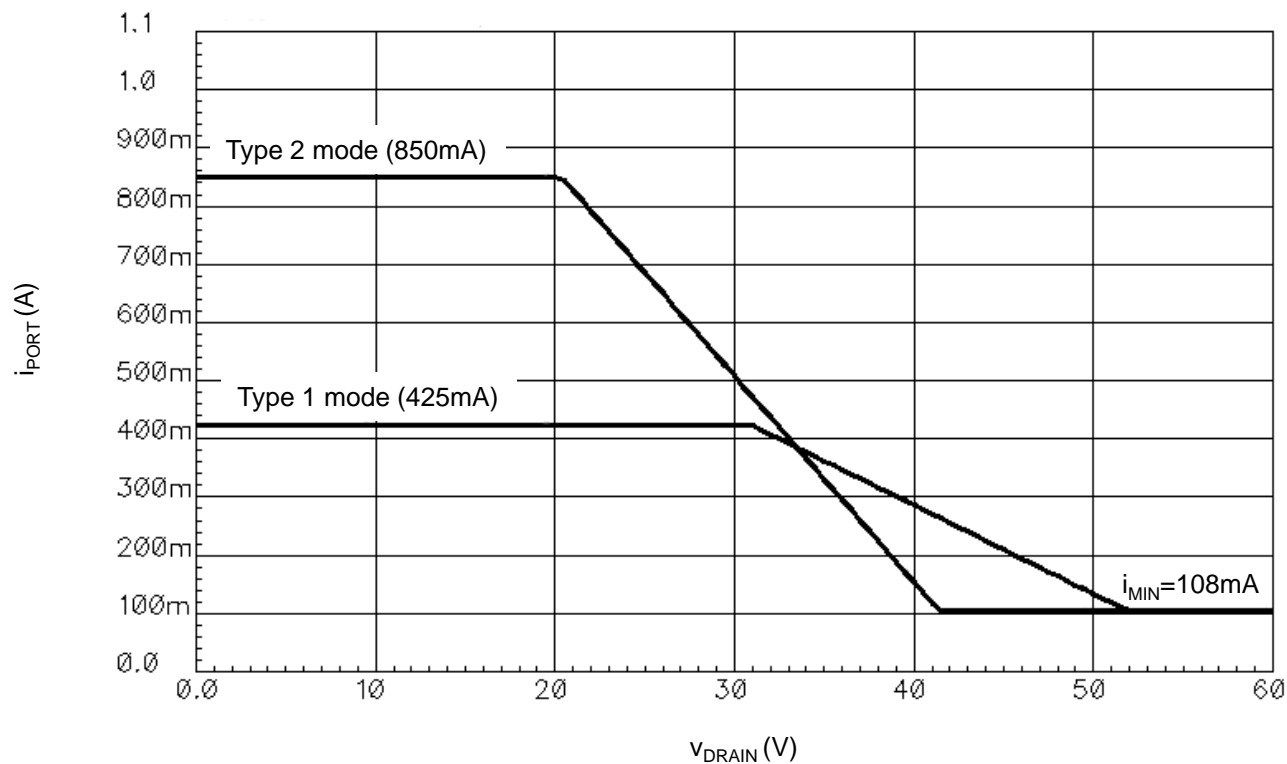

Figure 9. Foldback Current in IEEE 802.3at Type 1 (1X) and Type 2 (2X) Current Limit Modes
- Linear foldback behaves as shown in Figure 9 on page 16.